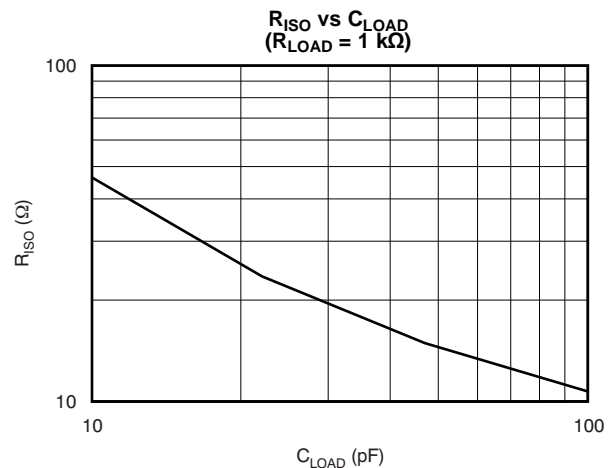

Figure 17.
The Typical Characteristics show the recommended  $R_{ISO}$  versus Capacitive Load performance (see Figure 17) and the resulting frequency response with a 1-k $\Omega$  load. Note that larger  $R_{ISO}$  values are required for lower capacitive loading. In this case, a design target of a maximally-flat frequency response was used. Lower values of  $R_{ISO}$  may be used if some peaking can be tolerated. Long PCB traces, unmatched cables, and connections to multiple devices can easily degrade the performance of the OPA653. Always consider this effect carefully, and add the recommended series resistor as close as possible to the OPA653 output pin (see the Board Layout section). With heavier loads (for example, the 100- $\Omega$  load presented in the test circuits used for testing the Typical Characteristics), the OPA653 is very robust;  $R_{ISO}$  can be as low as 10  $\Omega$  with capacitive loads less than 5 pF and continue to show a flat frequency response.
**d) Connections to other wideband devices** on the board may be made with short direct traces or through onboard transmission lines. For short connections, consider the trace and the input to the next device as a lumped capacitive load. Relatively wide traces (50 mils to 100 mils, or 1.27 cm to 2.54 cm) should be used. Estimate the total capacitive load and set  $R_{ISO}$  from the plot of *Recommended  $R_{ISO}$  vs Capacitive Load* (Figure 17). Low parasitic capacitive loads (less than 5 pF) may not need an  $R_{ISO}$  because the OPA653 is nominally compensated to operate with a 2-pF parasitic load.
case, and set the series resistor value as shown in the plot of  $R_{ISO}$  vs *Capacitive Load* (Figure 17). This configuration does not preserve signal integrity as well as a doubly-terminated line. If the input impedance of the destination device is low, there will be some signal attenuation as a result of the voltage divider formed by the series output into the terminating impedance.